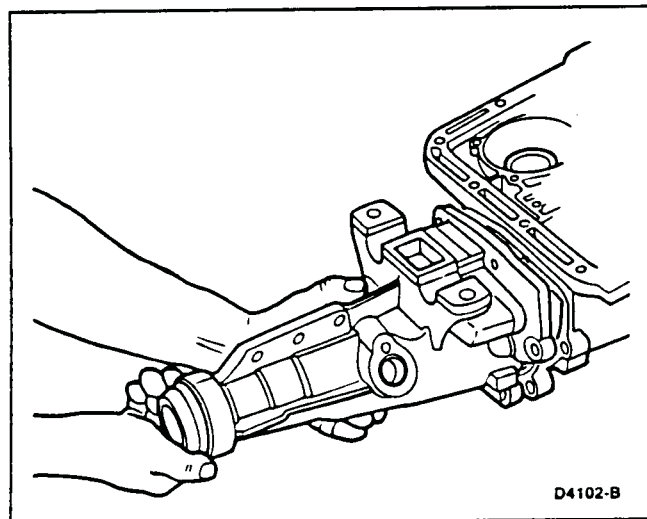

FIG. 13 Extension Housing Removal
8. Remove the bolts and remove the extension housing (Fig. 13).
Refer to Fig. 13.
1. Remove the transmission extension housing bolts and slide off the extension housing (Fig. 13). Remove the gasket.